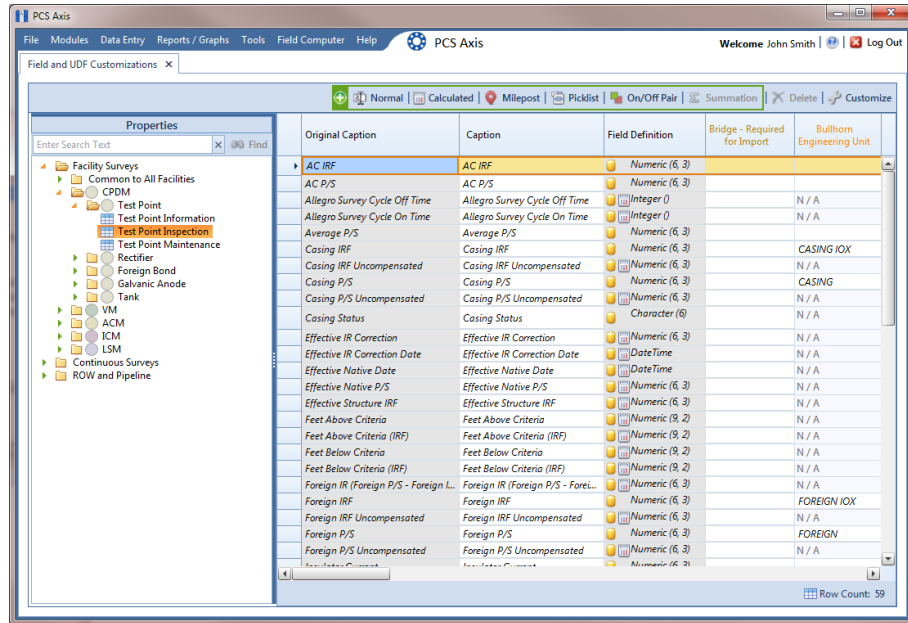

Figure 3-38. Field and UDF Customizations
- 3 Select an item in the *Properties* panel that includes the data entry grid you want to add a UDF. For example, double-click **Facility Surveys > CPDM > Test Point > Test Point Inspection** to display a grid with fields and property settings related to the *Test Point Inspection* data entry grid (Figure 3-38).
- 8 Click a toggle button  to open a field category, such as *Test Point Inspection Fields* shown in Figure 3-38, page 83. Double-click a field in the list of fields to add it in the *Expression* field. Define the UDF using the operator and functions buttons.